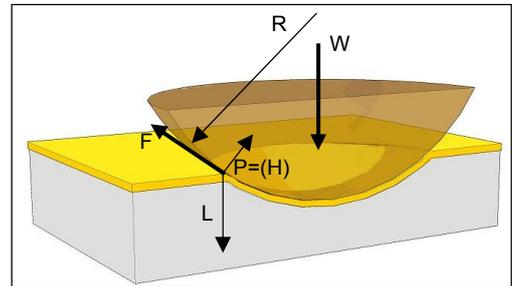

Fig. 3-1 Operating principle of Benjamin Weber
As shown in Fig. 3-1, when the applied load (W) is gradually increased, the surface of a thin film starts to wear and eventually destruction or fracture of the film occurs. By analyzing the change in the load sensor output signal during the above process, the point of film fracture can be identified and the load value applied at the time of fracture is measured. This load value is referred to as the critical fracture load value. The scratch tester is used for selecting the film forming conditions and confirming the condition of the formed film by checking the critical fracture load value of a thin film.